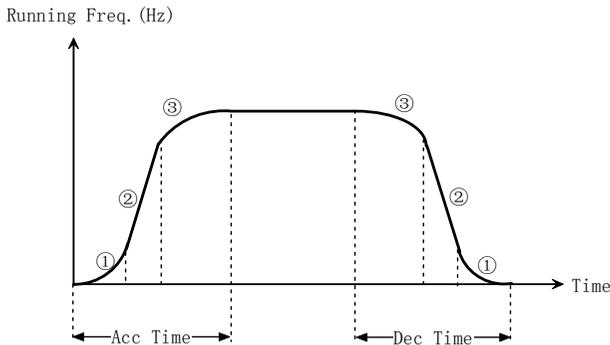

Figure.5-1-6 S-curve acceleration/deceleration
- ◆ Starting process of S-curve is shown in Figure. 5-1-6 as “①”, where the changing rate of output frequency increases from 0.